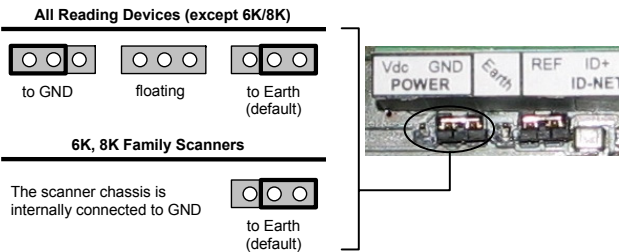

Figure 7 – Chassis Grounding
- Connect the reading device chassis to earth ground through the jumper, (default setting, see Figure 7).
The reading device chassis grounding method can be selected by positioning a jumper (see Figure 7). In this way the reading device chassis can be connected to earth ground (only if pin Earth is connected to a good earth ground). For all reading devices except 6K/8K, the chassis can alternatively be connected to the power supply ground signal (GND) or it can be left floating but, in this case, the jumper must be removed. For 6K or 8K scanners the chassis is internally connected to GND.